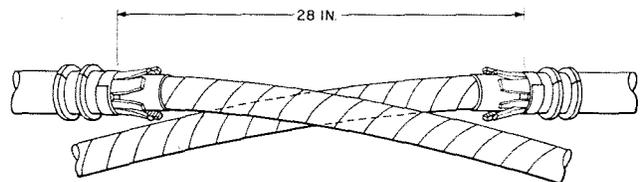

Fig. 9—Verifying Opening Length
3.11 **Make sure the distance between the remaining** tape markers is 28 inches. Remove the paper tape markers (Fig. 9).